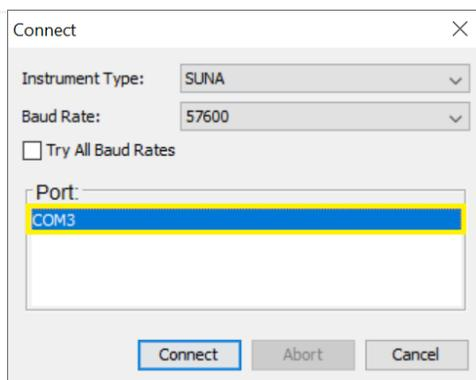

Figure 28. Select the appropriate com port
**STEP 10 |** Select the appropriate laptop “COM#” port (Figure 28).